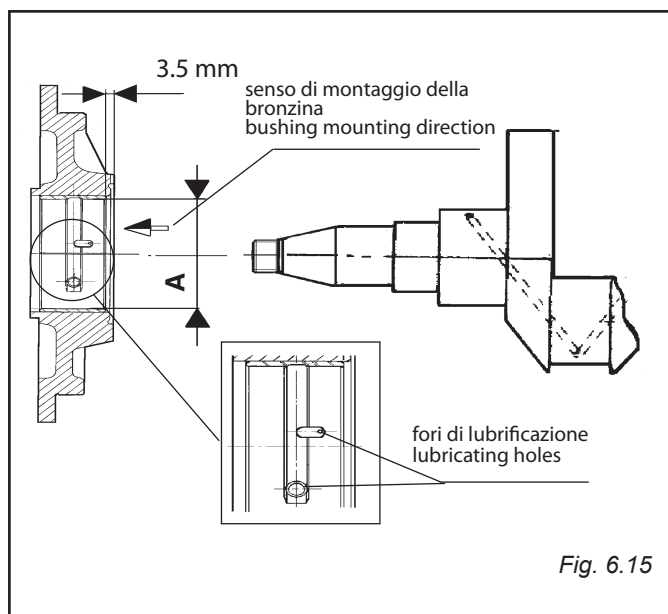

Fig. 6.15
(FIG. 6.15)
- Check that the arrow punched on the exterior of each half shell is facing the direction of assembly of the bearing (Fig. 6.15).
- Fit the bearing to a depth of **3.5 mm** with respect to the crankshaft thrust surface and align the oilways in the half shells with the respective oilways in the support (Fig. 6.15).